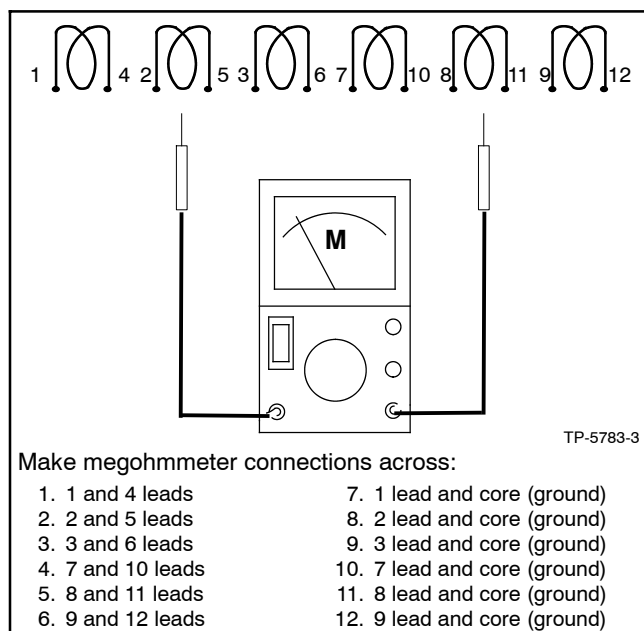

Figure 7-16 Stator Winding High Voltage Test
7. Using a megohmmeter, apply 500 volts DC to each set of windings and then to each winding and the stator core (ground). See Figure 7-16. Place the stator assembly on a non-conductive surface when performing the test. Follow the instructions of the megohmmeter manufacturer when performing this test.